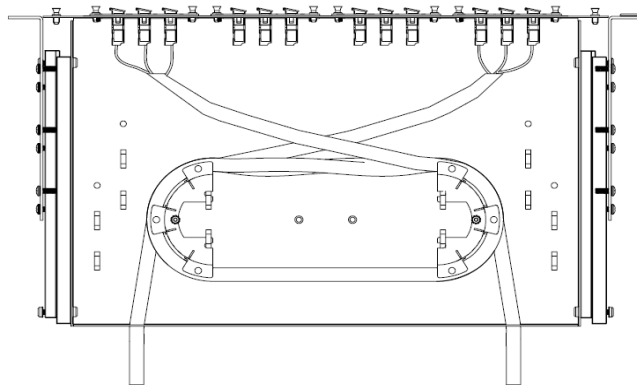

Fig.4
3.0.4 Installing Fiber Adapter Plates (Fig. 4)